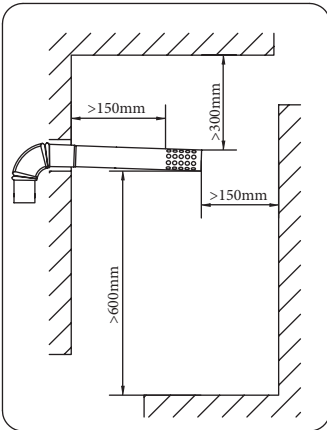

Fig 6
- The image on the left is for your reference. If the exhaust pipe is short, you can lengthen it according to your requirement. Fig 6